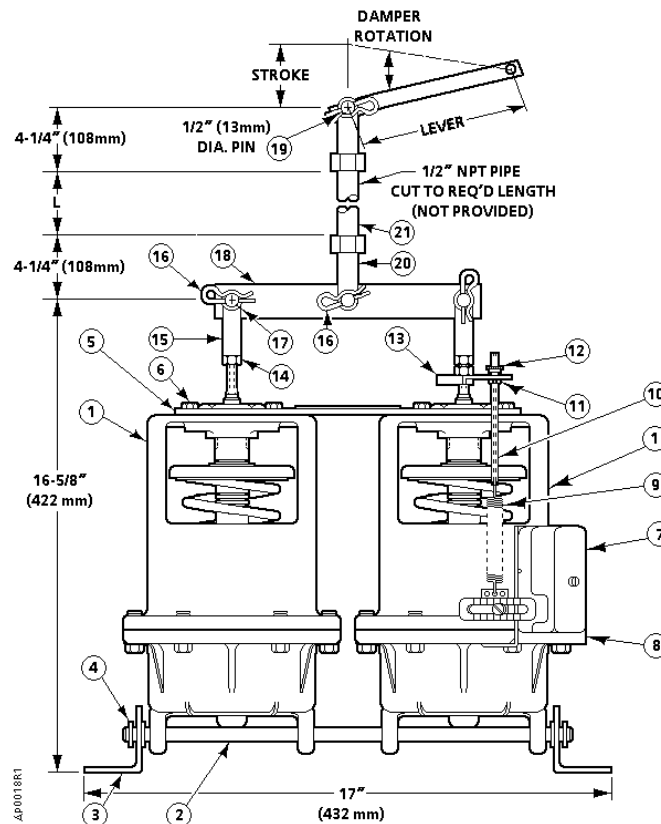

Figure 2. Damper or Inlet Vane Installation.
4. Determine the length “L” (NPT pipe length) shown in Figure 2 required for the application. Increase the length “L” by the amount of thread engagement at each end of the pipe.
Table 3. (See Figure 2).